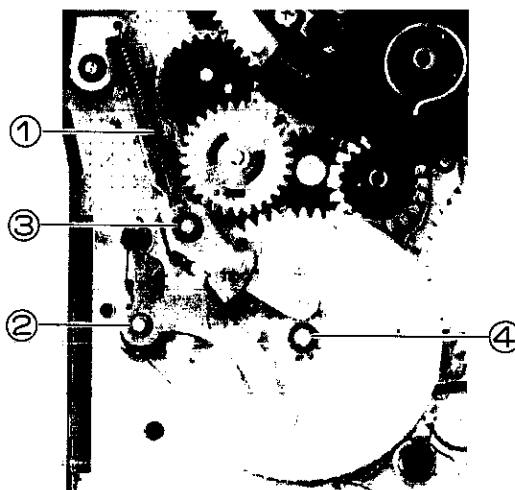

Figure 6-21(a).
1. Position the pinch link assembly and the reel lever B as shown in Fig. 6-21(b).
2. Install the master cam from above onto its shaft as shown in Fig. 6-21(c).